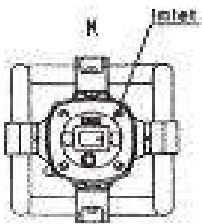

fig.2
6. When every shift operates, the outside of the motor should be cleaned whenever necessary. Especially the motor's inlet and exhaust ventilation passage must always be kept clear. (as fig.2)